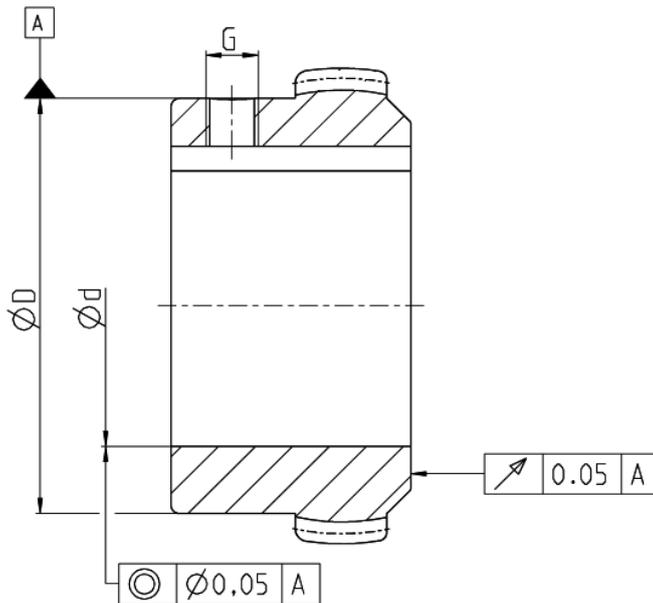

Figure 7.3: Specifications for the form and positional tolerance of the bore
- the form and positional tolerances in accordance with DIN ISO 286 are adhered to (see figure 7.3).